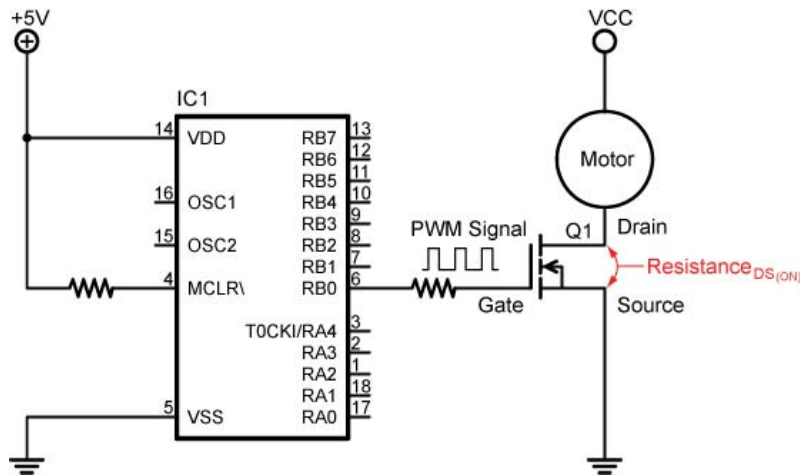

Figure 7: The Drain to Source Resistance in the ON-state is Measured in the Hundredths of an Ohm
- Pulse-Width Modulation (PWM) is a way of controlling the power of an electric circuit that wastes very little electrical energy. The signal is fed through a transistor switch which has little resistance while in the ON state. Power MOSFETs generally have a drain to source resistance in the ON-state ($R_{DS(ON)}$) measured in the hundredths of an ohm (Figure 7). Since the resistance is so small, little energy is consumed by the transistor switch while in the ON-state.